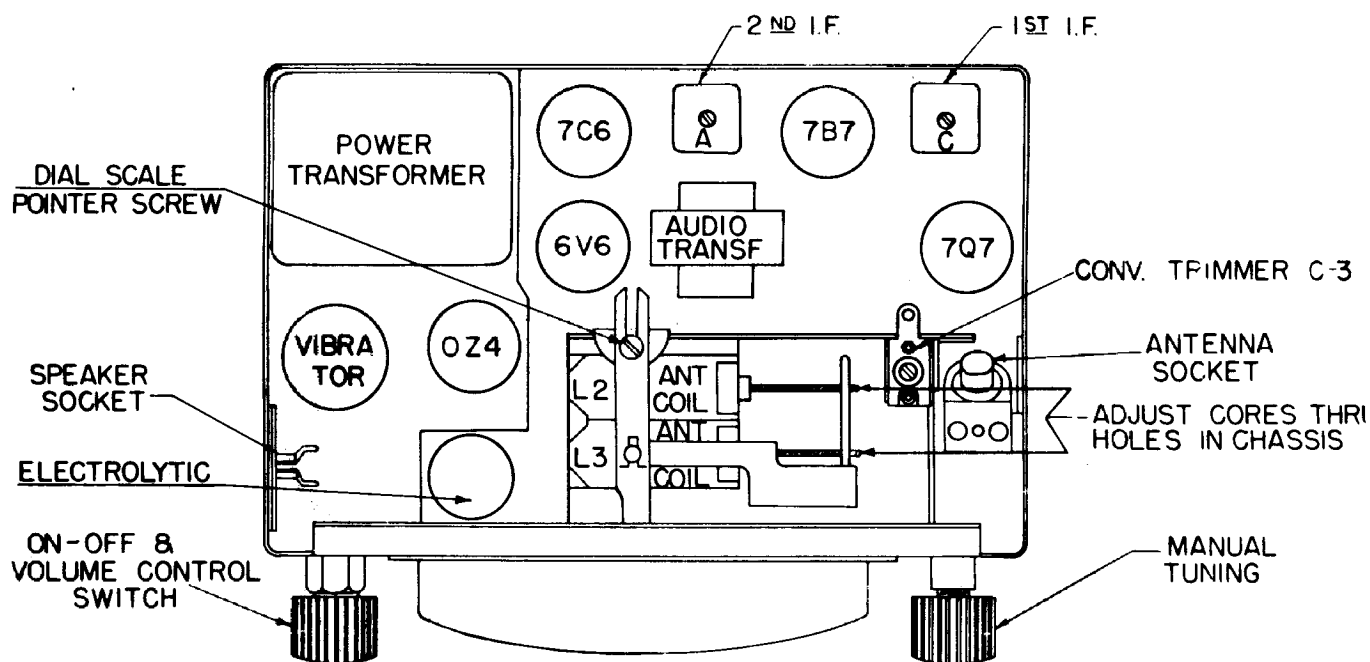
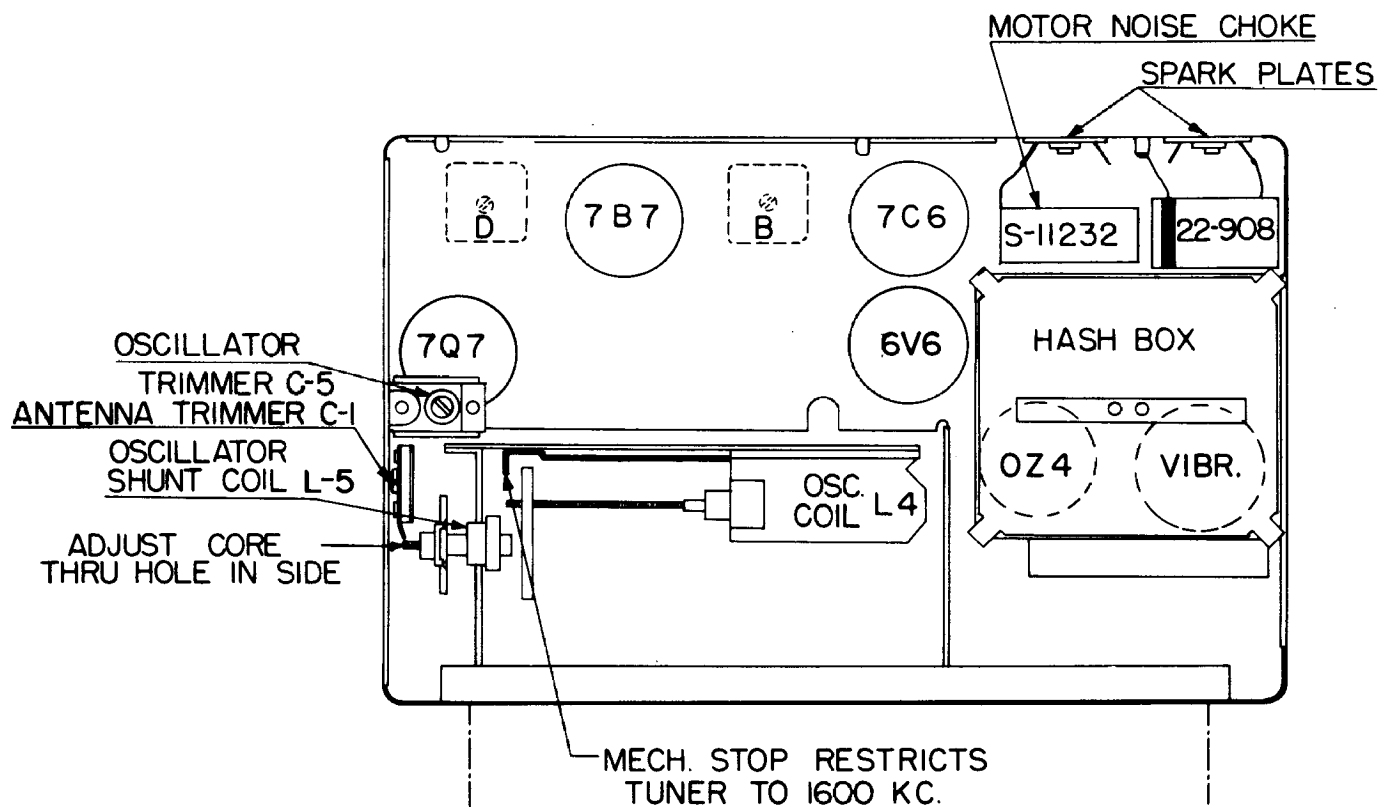

Fig. 7. Top View of Chassis
Fig. 8. Bottom View of Chassis
- 4—Adjust I.F. slugs A, B, C and D (Figs. 7 and 8), in the order named for maximum output. Repeat the operation to assure accurate alignment.
- 4—Adjust oscillator trimmer C-5 (Fig. 8) for maximum response.
- 7—Adjust converter trimmer C-3 (Fig. 7) and Ant. trimmer C-1 (Fig. 8) for maximum response.
- 8—If dial calibration is off after making above adjustments, a correction can be made by turning eccentric screw at fulcrum of dial pointer. (Fig. 7.)
- 6—Adjust oscillator trimmer C-5 (Fig. 8) at 1675 Kc.
- 7—Adjust converter trimmer C-3 and antenna trimmer C-1 (Fig. 7 and 8) for maximum output reading.
- 10—Adjust oscillator core L-4 (Fig. 8) to scale at 1200 Kc.
- 11—Adjust the two antenna cores L2 and L3 (Fig. 7) for maximum output reading. Do not adjust trimmers.
- 13—If necessary, "rock in" shunt oscillator core L-5 (Fig. 8) for maximum output reading. This should be done only as a last resort, as the core has been set and sealed and should not require adjustment.